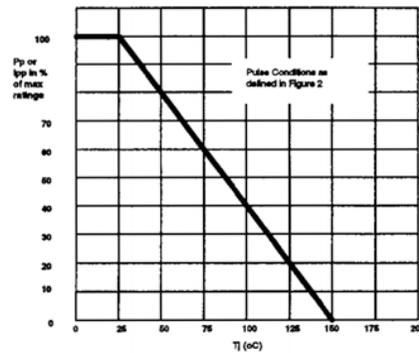

Figure 4 - Power Derating Curve
1. Reverse current (IR) - Reverse current increases with temperature. Consult data sheet for high temperature leakage current values.
2. Power dissipation - As the junction temperature of the device increases, the power dissipating capability decreases. The peak power derates linearly from +25 C to T(max). An example power derating curve is shown in Figure 4.